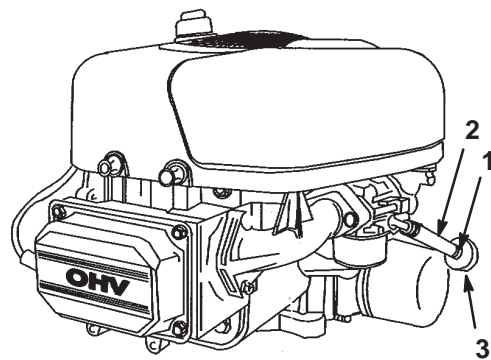

Figure 28
- Squeeze the ends of the hose clamp together and slide it up the fuel line toward the fuel tank (Fig. 28).
- Pull the fuel line off of the filter (Fig. 28) and allow the gasoline to drain into a gas can or drain pan.
The best time to replace the fuel filter (Fig. 28) is when the fuel tank is empty. Never install a dirty filter if it is removed from the fuel line.
6. Squeeze the ends of the hose clamps together and slide them away from the filter (Fig. 28).